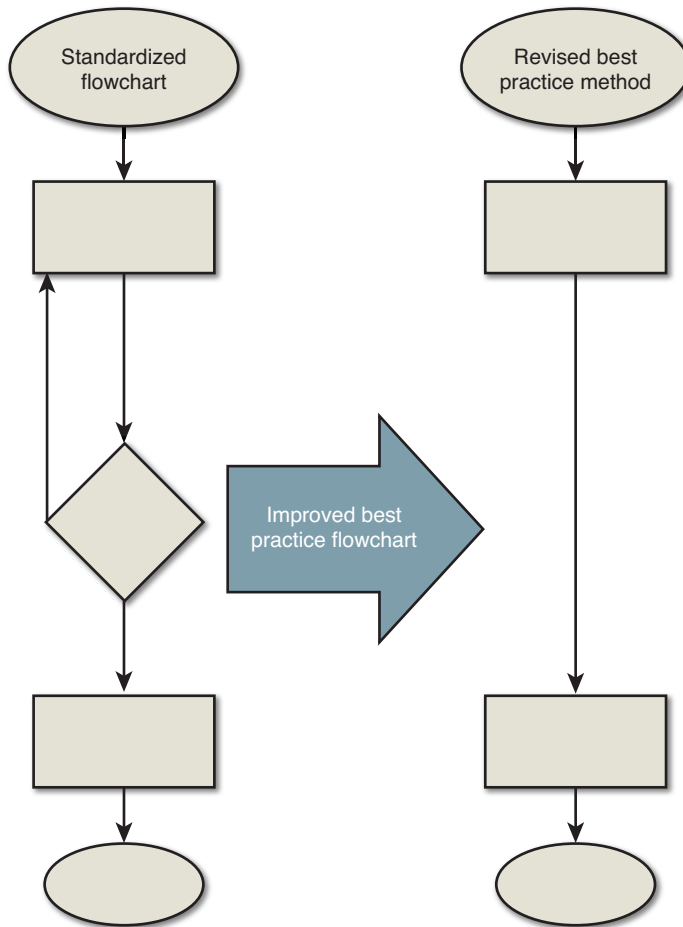

Figure 18.8 Standardized and revised best practice flowcharts
- **Plan**—Team members figure out what changes can be made to the current best practice process (see standardized flowchart on the left of the Figure 18.8) to achieve improved results from the revised best practice method for the metric of interest (see revised practice flowchart on the right of Figure 18.8)—for example, deleting an unnecessary step in the process as shown in Figure 18.8. Basically, team members are moving from the current state flowchart to a new, and hopefully, improved future state flowchart by changing the flow of the process.
- **Act**—Team members decide whether to (1) adopt the revised best practice flowchart and lock it in with documentation and training, (2) abandon the revised best practice method because it failed to yield the desired results, or (3) modify the revised best practice method and repeat the PDSA cycle.